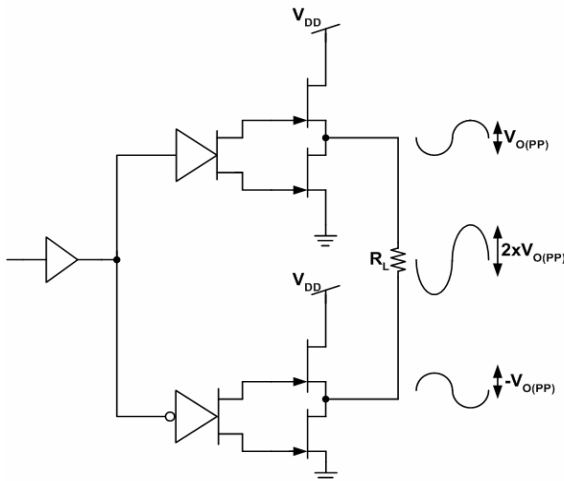
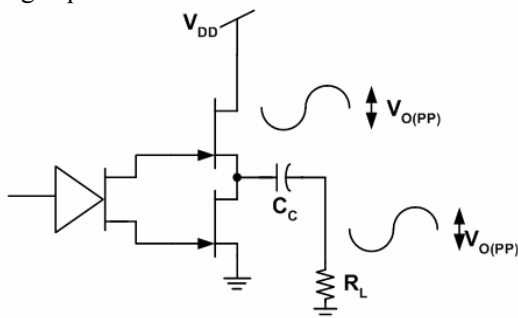

Figure 56. Bridge-Tied Load Configuration
Figure 57. Single-Ended Configuration and Frequency Response
Figure 56 show a linear audio power amplifier (APA) in a BTL configuration. The EUA 5202 BTL amplifier consists of two linear amplifiers driving both ends of the load. There are several potential benefits to this differential drive configuration, but initially consider power to the load. The differential drive to the speaker means that as one side is slewing up, the other side is slewing down, and vice versa. This in effect doubles the voltage swing on the load as compared to a ground referenced load. Plugging 2 × VO(PP) into the power equation, where voltage is squared, yields 4 × the output power from the same supply rail and load impedance (see equation 7)
In a typical computer sound channel operating at 5V, bridging raises the power into an 8-Ω speaker from a single-ended (SE, ground reference) limit of 250 mW to 1W. In sound power that is a 6-dB improvement—which is loudness that can be heard. In addition to increased power there are frequency response concerns. Consider the single-supply SE configuration shown in Figure 57. A coupling capacitor is required to block the dc offset voltage from reaching the load. These capacitors can be quite large (approximately 33μF to 1000μF) so they tend to be expensive, heavy, occupy valuable PCB area, and have the additional drawback of limiting low-frequency performance of the system. This frequency limiting effect is due to the high pass filter network created with the speaker impedance and the coupling capacitance and is calculated with equation 8.
In SE mode (see Figure56 and Figure57), the load is driven from the primary amplifier output for each channel (OUT+, terminals 22 and 3).